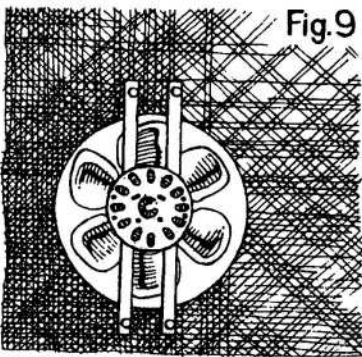

Fig. 9
2. Place the mounting brackets of the blower on the socket set screws. The motor wires should leave the motor casing on the floor side. It is important that there is proper clearance of the fan blades in the cavity. If this is a free-standing installation, slide the motor cover over the blower. Secure the blower with nuts (0709) and lock washers (0710.) (Figure 9) (Skip to step 6 if this is a fireplace insert installation.)